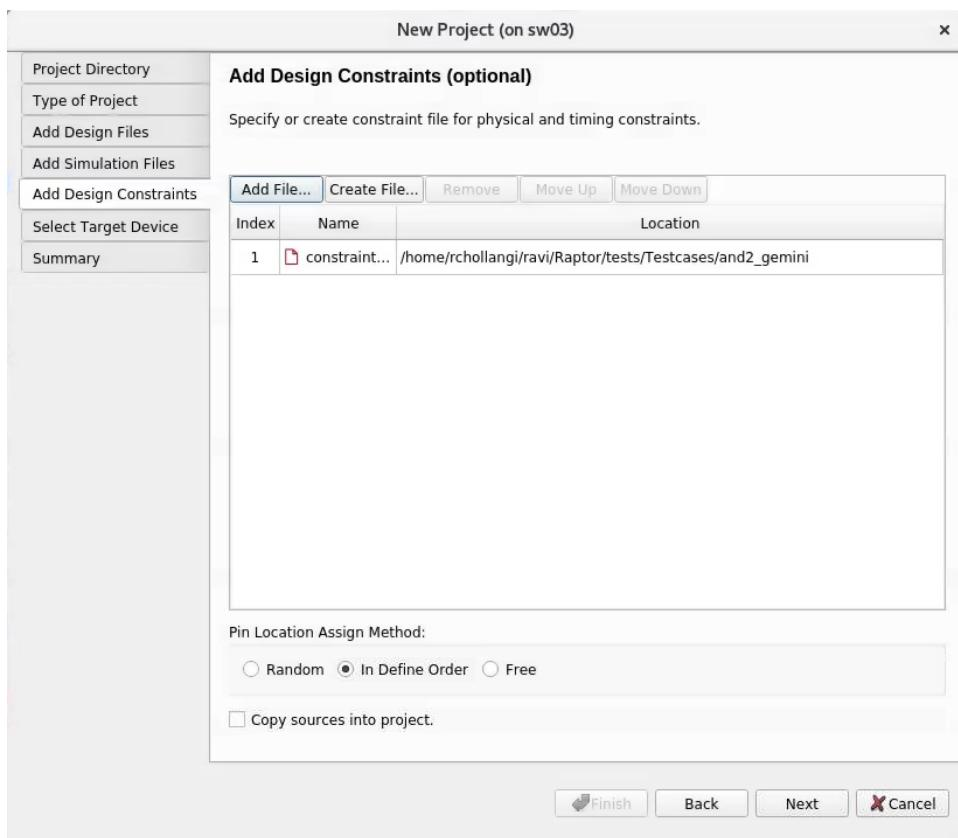

Figure 17. Add Design Constraints
8. Add Design Constraints: Similarly, the user can add or skip design constraint files as shown in **Figure 17**.